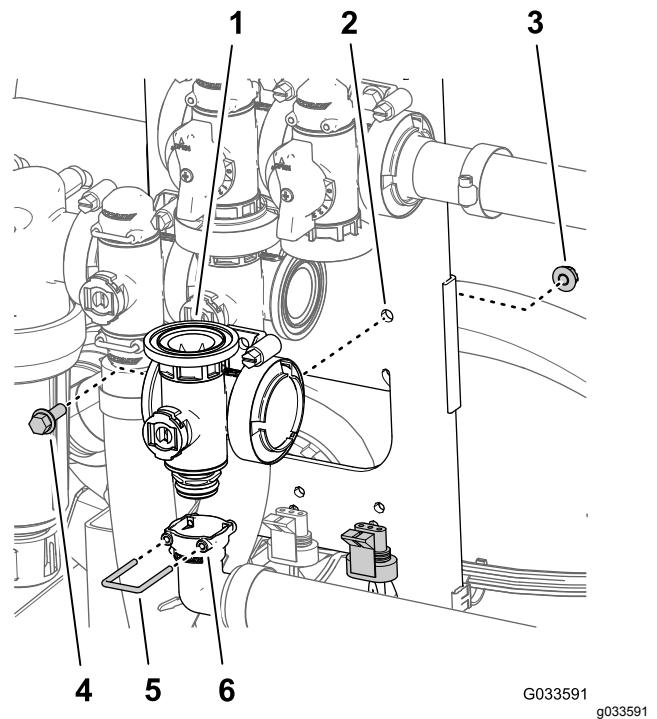

Figure 115
2. Remove the retainer that secure the 90° outlet fitting to the manifold coupling for the master-boom valve (Figure 115).
3. Remove the flange-head bolt (1/4 x 3/4 inch) and flange locknut (1/4 inch) that secure the master-boom valve to the valve mount and remove the valve manifold from the machine (Figure 115).